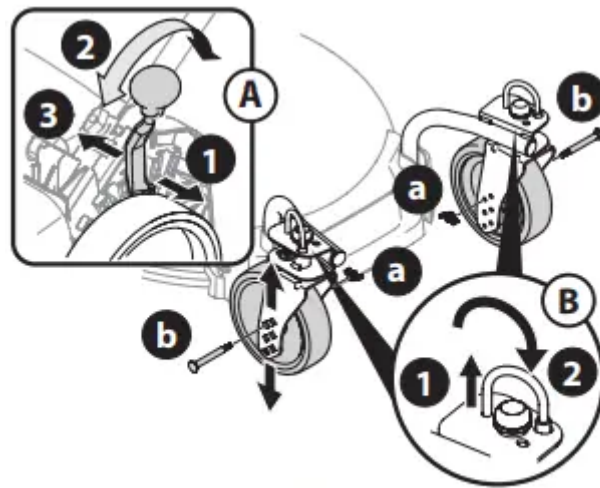

Figure 24
REAR WHEEL/CASTER WHEELS - NOTE: The rear wheel cutting height adjustment lever is located above the rear left wheel (Inset A, Figure 24).
3. Release lever towards mower deck. NOTE: The caster wheels cutting height are determined by selecting one of six positions on each caster assembly (Figure 24).
6. The casters can be locked in a straight ahead position or positioned to swivel freely (Inset B, Figure 24).